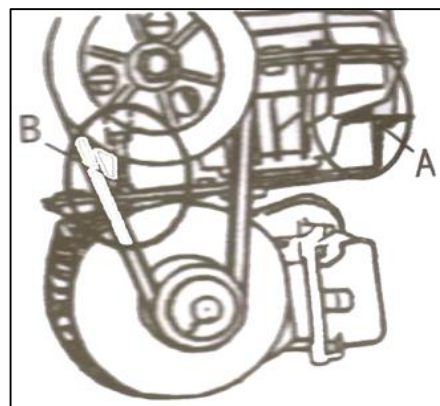

Fig. 28
- Periodically check and adjust the tension of the drive belt. Properly adjust, by adjusting the nut in A and B to proper tension (Fig. 28).